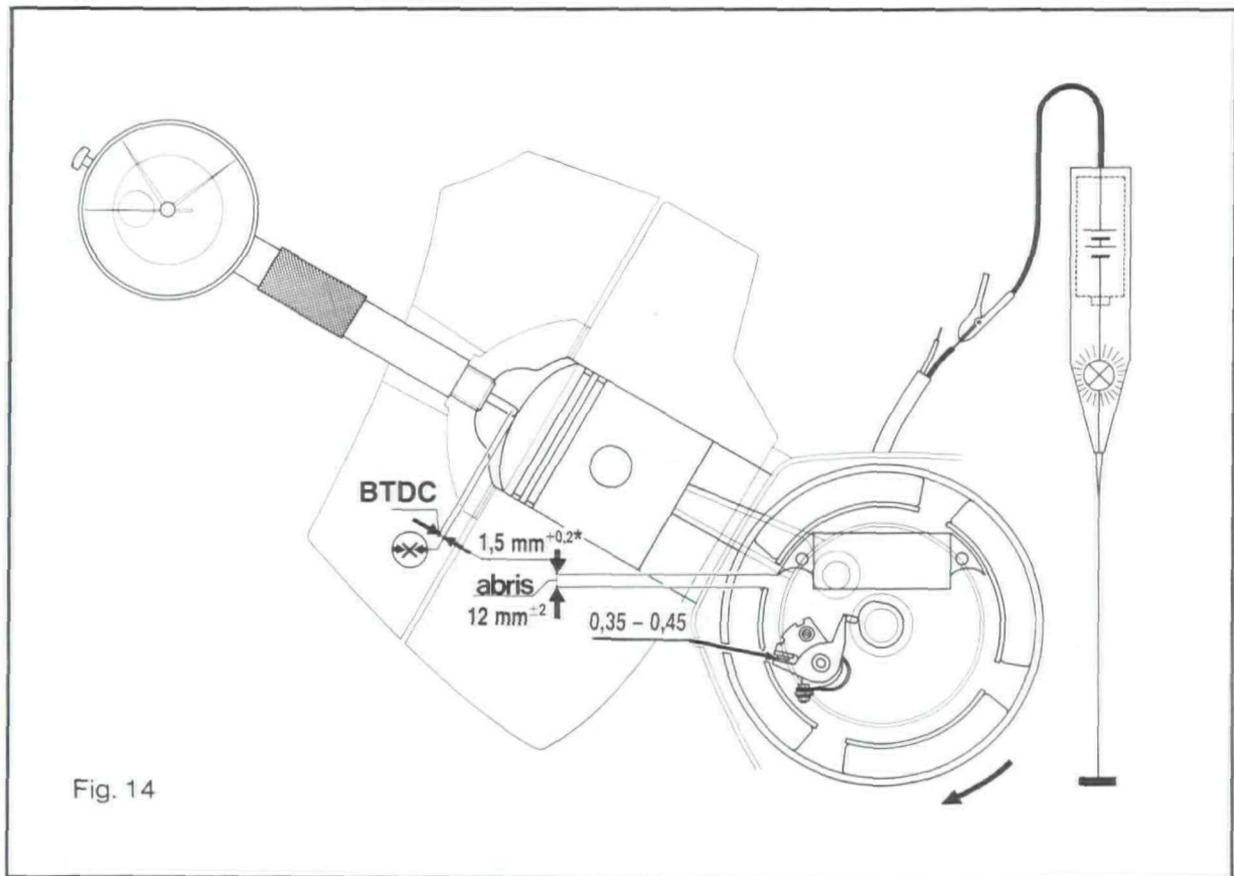

Fig. 14
For proper function of the engine is essential a correct ignition timing. The ignition advance should be $1,5^{+0,2} \text{ mm}^*$. The most common cause of incorrect timing is due wear or damage of contact breaker points, wear of cam actuated breaker nose lever, damage of condenser. To provide the exact timing is necessary to replace faulty parts and proceed (fig. 14) as follows:
- For efficient spark intensity or high ignition voltage is essential a proper abris adjustment. As a matter of fact, it is the distance between the edge of the ignition coil pole shoe and the receding magnet pole edge at the opening point of the contact breaker and it should be within the range of $12 \pm 2 \text{ mm}$ ($0,473 \pm 0,079 \text{ in}$). The gap should be measured the moment the intensity of light or sound frequency is changed on the gauge (fig. 14).